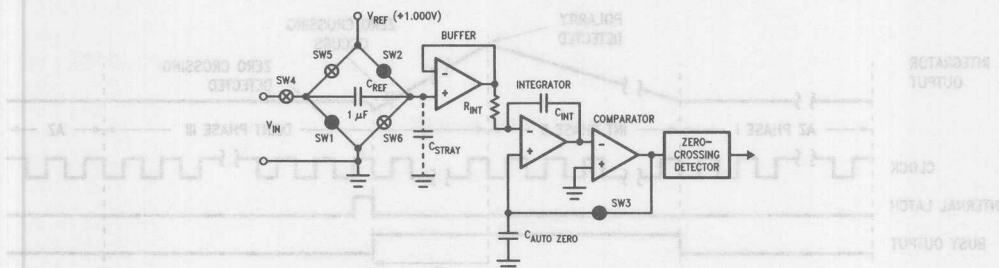

Figure 4A: Phase I Auto-Zero
1. AUTO-ZERO PHASE I (Figure 4A)